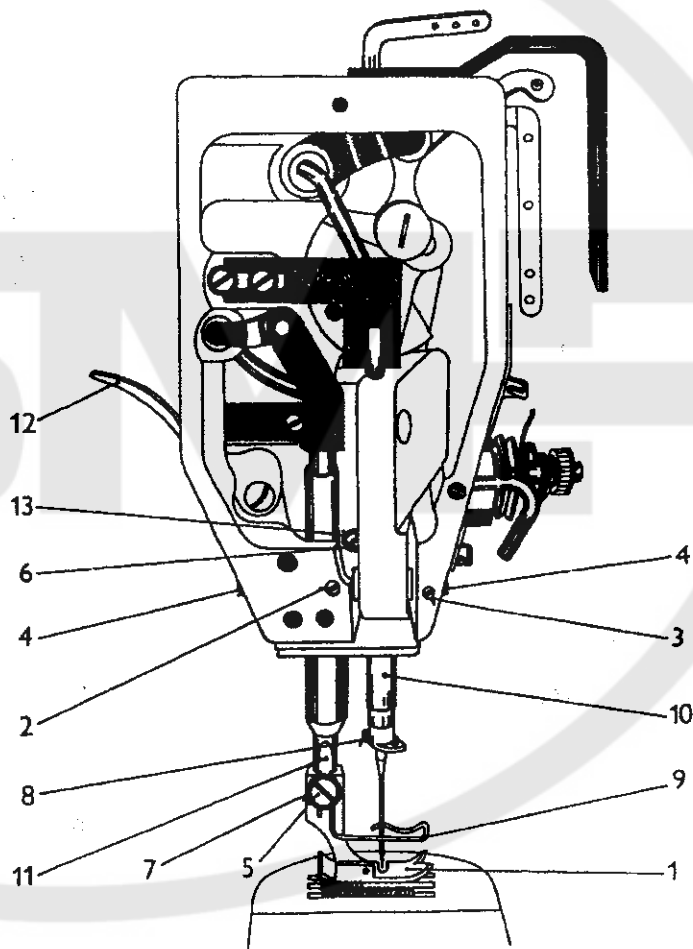

Fig. 3
4. To lift the presser foot (Fig. 3)
7. To insert needle (Fig. 3)
8. To adjust in height the needle bar (Fig. 3)
14. To exchange the presser foot (Fig. 3)
16. To adjust the needle punches into the centre of the slot of the throat plate in longitudinal direction (Fig. 3)